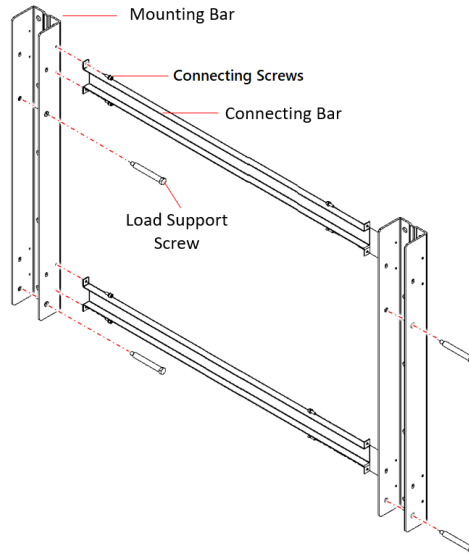

Figure 20: Assembling the Mounting Bracket
1. Insert and secure the four Load Support Screws into the two Mounting Bars (see *Figure 20*). Torque the Load Support Screws to 8 N\*m/5.9 lb\*ft.